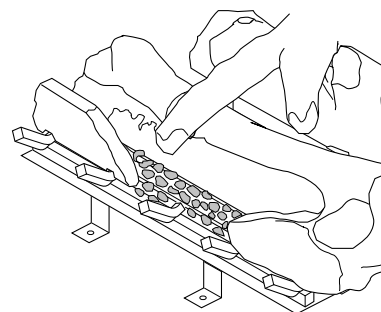

Figure 46 - Placing Ember Material on Burner
7. Pull ember material apart into pieces no larger than a dime. Place these pieces loosely and sparingly directly onto the exposed section of the front burner and along the space between the burner and grate prongs (see Figure 46). This will create the glowing ember appearance as the flame touches the ember material. Do not block air slots by using too much ember material in one area. It is not necessary to use all of the ember material provided.